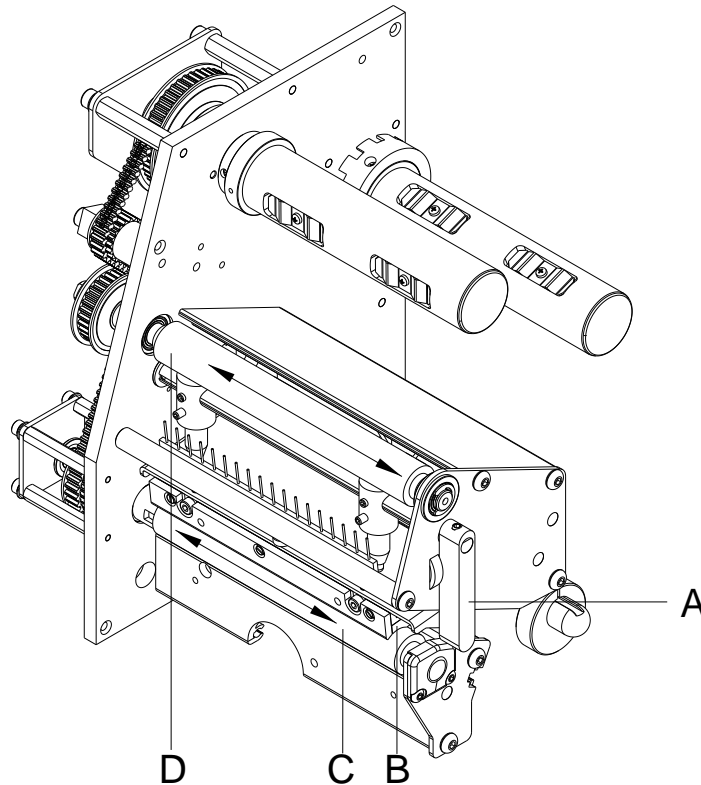

Figure 13
2. Turn the lever (A, Figure 13) counter clockwise to lift up the printhead (B, Figure 13).
5. Turn the roller (D, Figure 13) manually step by step to clean the complete roller (only possible when the printer is switched off, as otherwise the step motor is full of power and the roller is kept in its position).
7. To move the printhead (B, Figure 13) down, turn the pressure lever (A, Figure 13) in clockwise direction until it locks.
2. Turn the red lever (A, in Figure 13) counter clockwise to lift up the printhead.
7. To move the printhead down, turn the pressure lever (A, Figure 13) in clockwise direction until it locks.